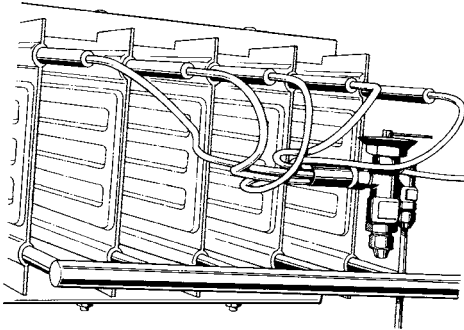
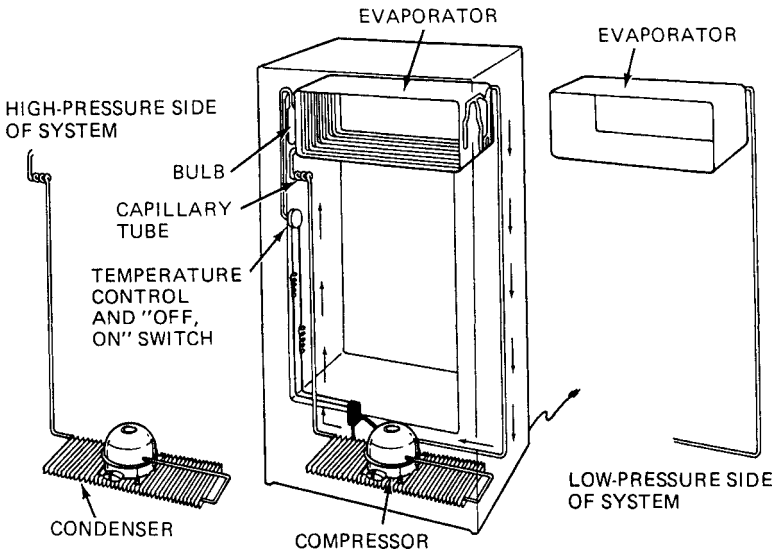

Figure 10-2 Plate evaporator.
Figure 10-3 A home refrigerator's cooling system.
- *Plate evaporators* use flat surfaces for their cooling surface (see Fig. 10-2). They are commonly used in freezers. If the object to be cooled or frozen is placed directly in contact with the evaporator plate, the cold is transferred more efficiently. Figure 10-3 shows a typical home refrigerator-cooling system. Note the evaporator.